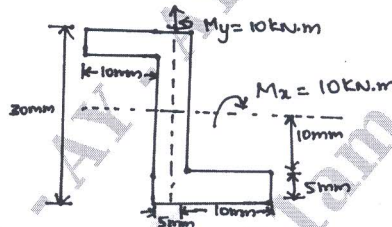

Fig Q2(a)
- 2 a. The beam section shown in Fig Q2(a) is subjected to a bending moment of 10kN.m in both the axes. Determine the distribution of direct stress.